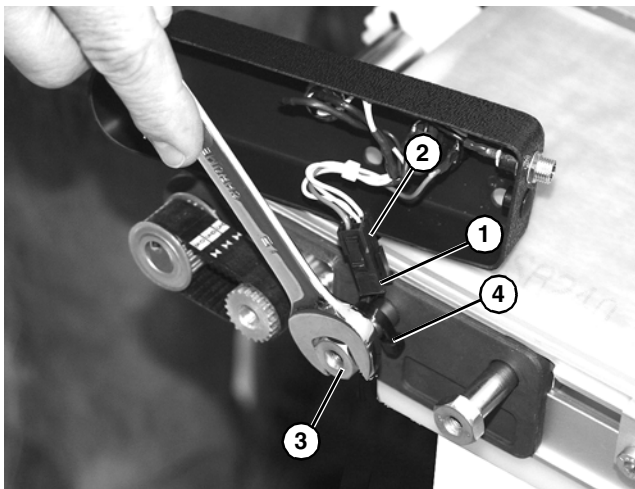

Figure 43
3. Unplug motor connector (**Figure 43, item 1**) from cover wiring connector (**Figure 43, item 2**).